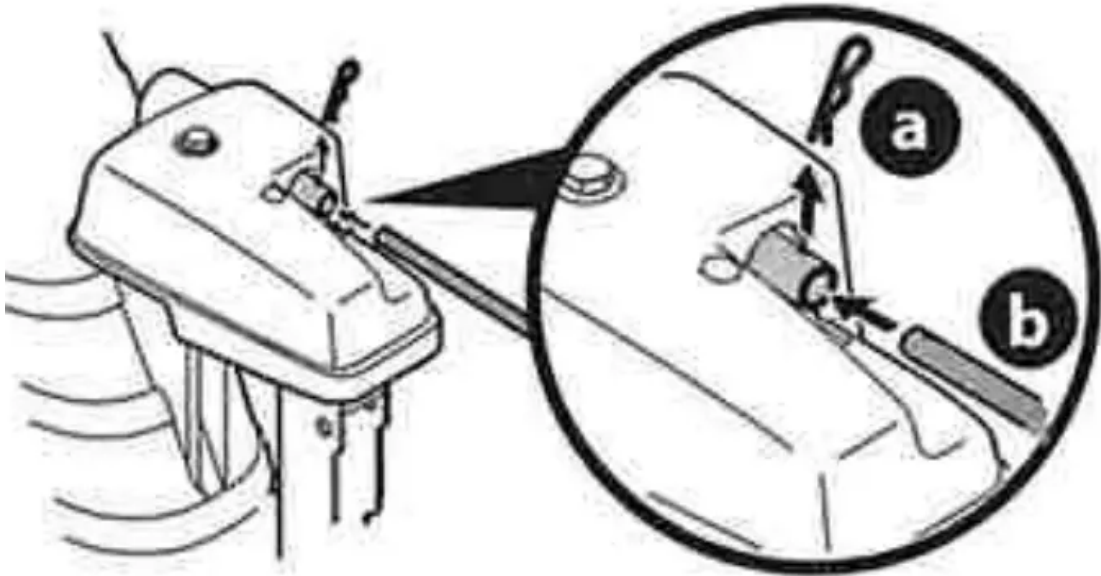

Figure 17
5. Remove hairpin clip (a) from rear of chute control head (Figure 17).
6. Insert chute control rod (b) into rear of chute control head (Figure 17) and secure with hairpin clip (a) removed in Step 5